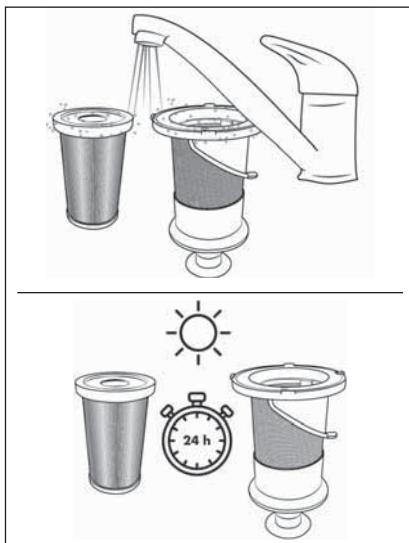

Fig. 25
- 5) Rinse the EPA filter 5 and the stainless steel filter 6 under cold or lukewarm water. Allow the EPA filter 5 and stainless steel filter 6 to air dry completely before putting them back into the dirt container 7 (see Fig. 25).